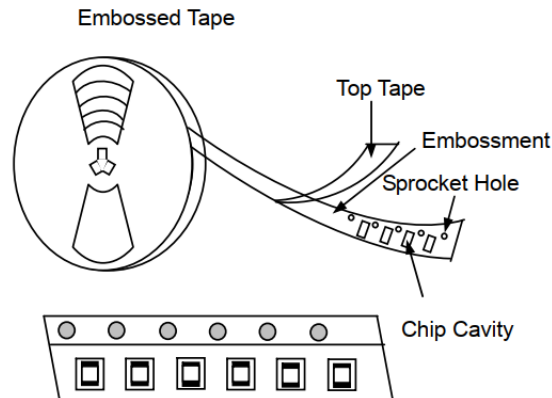

Fig. 6.1-1
- i. Tape carrier packaging are specified in attached figure **Fig.6.1-1~3**